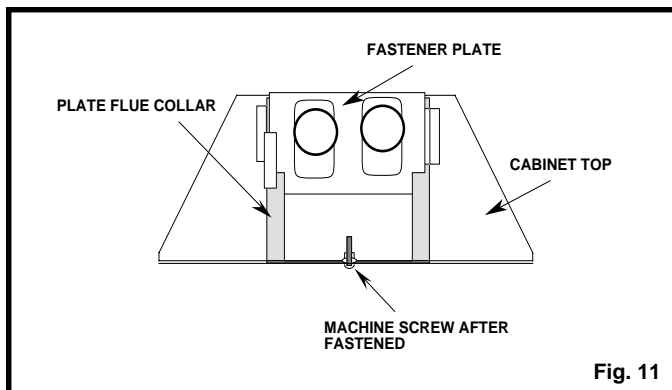

Fig. 11
4. Put the machine screw back into the fastener plate. Bolt the plate until it is locked. (See Fig. 11).